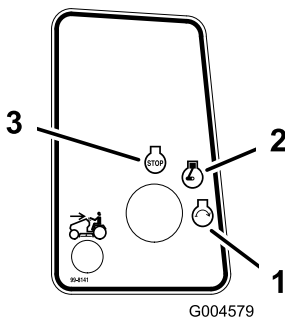

Figure 12
- Turn the ignition key clockwise and hold it in the Start position (Figure 12). When the engine starts, release the key.
- Turn the ignition key to Off (Figure 12).